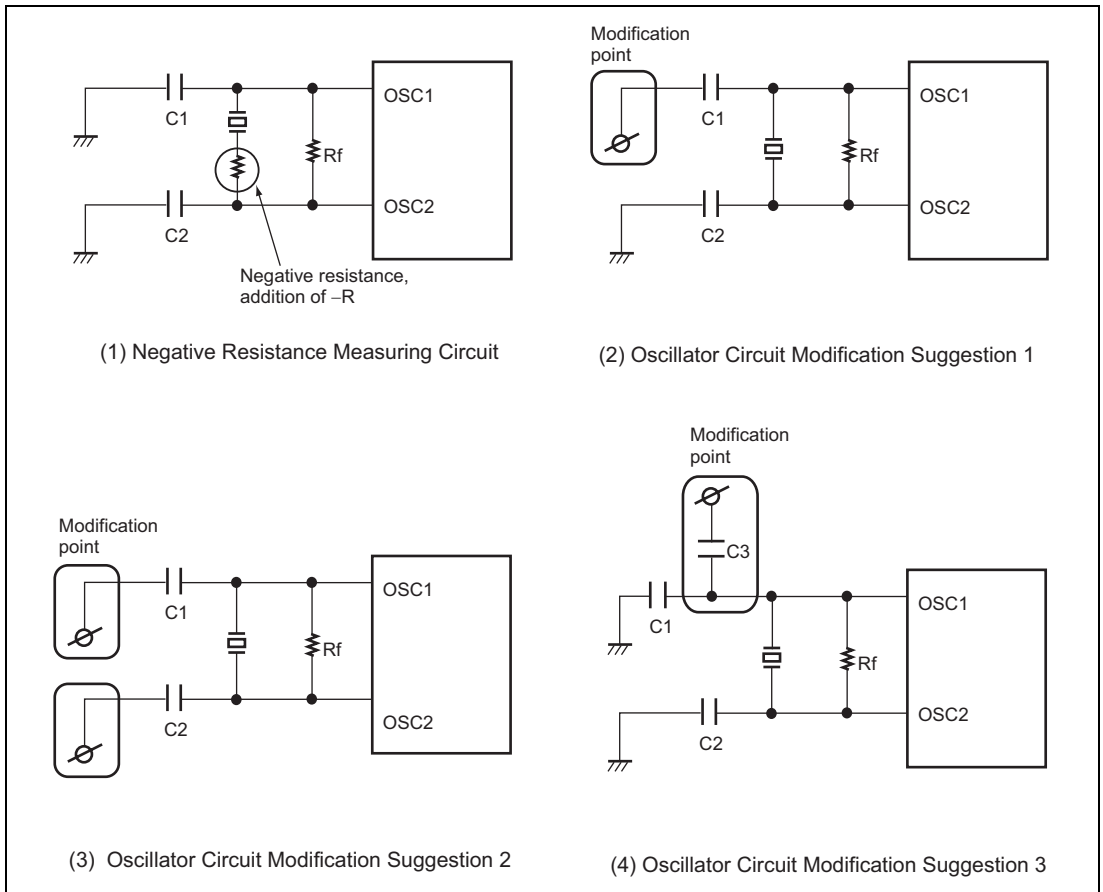

Figure 4.11 Negative Resistance Measurement and Circuit Modification Suggestions
Figure 4.11 (1) shows an example measuring circuit with the negative resistance suggested by the resonator manufacturer. Note that if the negative resistance of the circuit is less than that suggested by the resonator manufacturer, it may be difficult to start the main oscillator.
If it is determined that oscillation is not occurring because the negative resistance is lower than the level suggested by the resonator manufacturer, the circuit may be modified as shown in figure 4.11 (2) through (4). Which of the modification suggestions to use and the capacitor capacitance should be decided based upon an evaluation of factors such as the negative resistance and the frequency deviation.